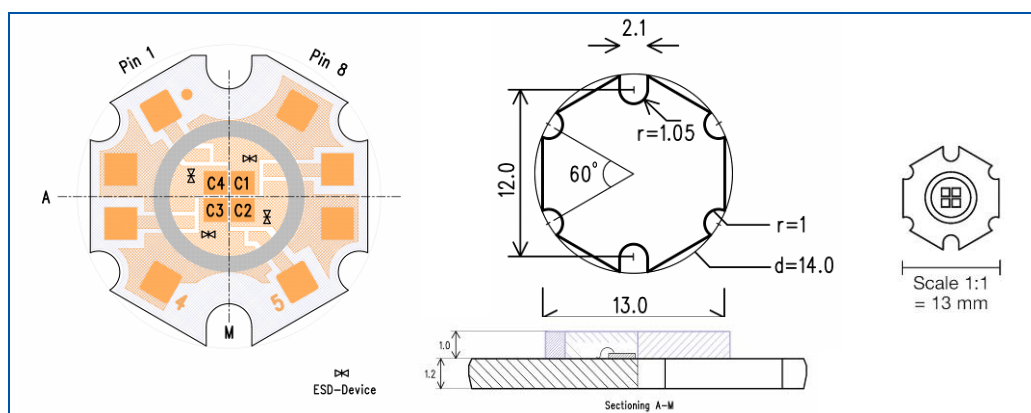
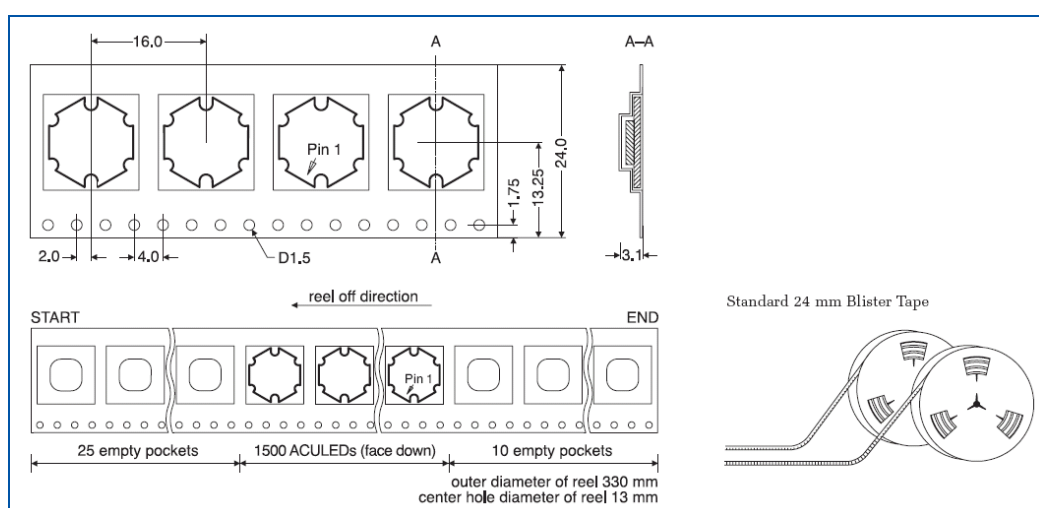

Figure 1
Figure 2
Figure 1 shows the layout of the ACULED VHL / DYO. The chips are placed in the middle of the board, protected by a PPA-based ring and silicone resin encapsulation. The latter is transparent and suitable for a wide range of radiation from ultraviolet (UV) to infrared (IR). It is also more resistant to heat than epoxy resin, and its heat expansion characteristics are closer to those of chips. With the ACULED's high-power LEDs, silicone achieves superior resistance to light radiation, mitigating degradation, and maintaining LED color purity over the LED's lifetime. The mechanical stress applied to the chips is lowest with silicone, as compared to standard encapsulation materials. Due to its softness, pressure to the silicone area within the ring must be avoided. Please refer to the application note “Handling of LED and Sensor Products Encapsulated by Silicone Resin” to learn more about handling silicone-based products such as the ACULED.
For automatic pick and place processing, the ACULED is supplied in a standard 24 mm blister tape reel as shown in Figure 2. The orientation of your specific ACULED product in the reel can be found in the respective datasheet. Usually it is upside down for all ACULED VHL/DYO products and face up for the 6-pad RGB(G)-ACULED. To recognize the ACULED orientation in an upside down tape by a vision system, the edges at the “upper” long hole between the solder pads #1 and #8 are beveled. Please refer to the left image in figure 1 for details, though the bevels may not appear in all drawings of the ACULED.